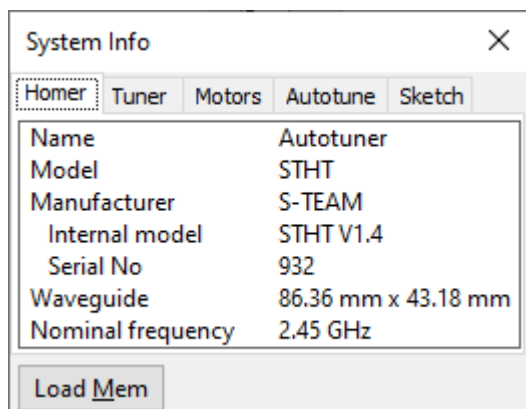

Figure 51. HoSim System Info window includes **Load Mem** button.
- Open System Info window (Figure 51). In case of HoSim simulation program, the window contains additional button, labeled **Load Mem**.